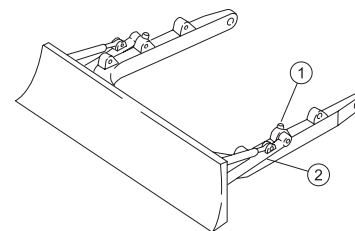

Figure 2-76
- Pull out the pins (1) on both sides to remove the push rod's arm (2) from the C-Frame (Figure 2-76)
- After putting the blade into an angle, install the push rod's arm (2) to the needed position. (the push rod frame has three supports on each side), and then insert the pin (1).